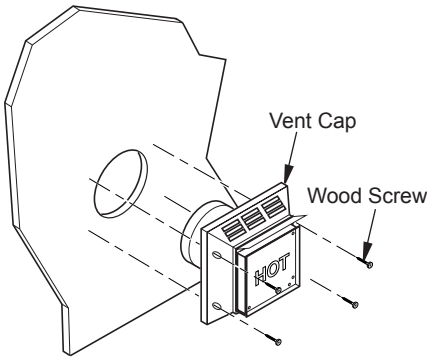

Figure 14 - Installing Horizontal Vent Cap (Noncombustible Exterior)
4. **Noncombustible Exterior Wall:** Apply a bead of non-hardening mastic around the outside edge of the vent cap. Position the vent cap in the center of the 7 1/2" (19.1 cm) hole on the exterior wall with the arrow on the vent cap pointing up. Attach the vent cap with four wood screws provided (see Figure 14, page 12). *Note: Replace the wood screws with appropriate fasteners for stucco, brick, concrete, or other types of siding.*